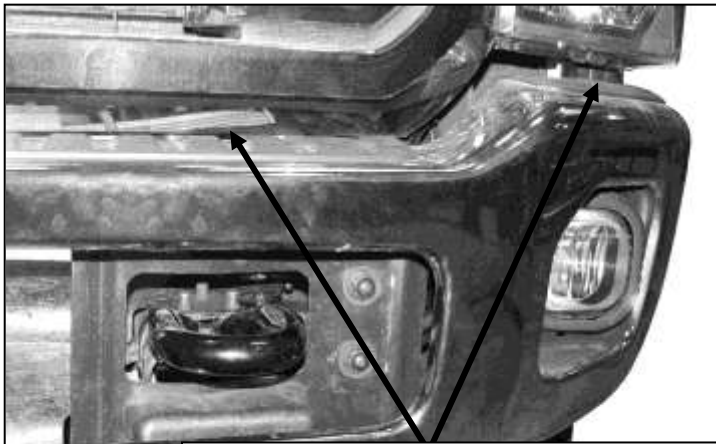

Fig 1
1. Before beginning installation, measure the gap between the headlight assembly and the bumper cover on both sides of the vehicle, **(Figure 1)**. Also note the gap between the grille shell and the bumper cover. Record these measurements as the installation requires removal of the bumper bolts and you will need these measurements to properly readjust the bumper height to its original position.
2. Starting at the front-driver side, remove the (2) factory bumper bolts, **(Figure 1)**. **WARNING!** Do not remove passenger and driver bumper bolts at the same time or the bumper may fall. Only remove and install one Frame Mounting Bracket at a time. **NOTE:** Bumper bolts are held in place by thin metal retaining clips. Discard the clips and remove the bolts.
3. Place the driver side Frame Mounting Bracket onto the vehicle and line it up with the (2) mounting bolt holes, **(Figure 2)**. Make sure there is a minimum of 1/8" clearance between the top and bottom of the Mounting Bracket and the opening in the bumper. Secure the Mounting Bracket to the vehicle using the factory bolts and double nut plate, **(Figure 1)**. Check bumper alignment and tighten these (2) bolts at this time. **NOTE:** It may be necessary to loosen and readjust the bumper once the Grille Guard has been installed.